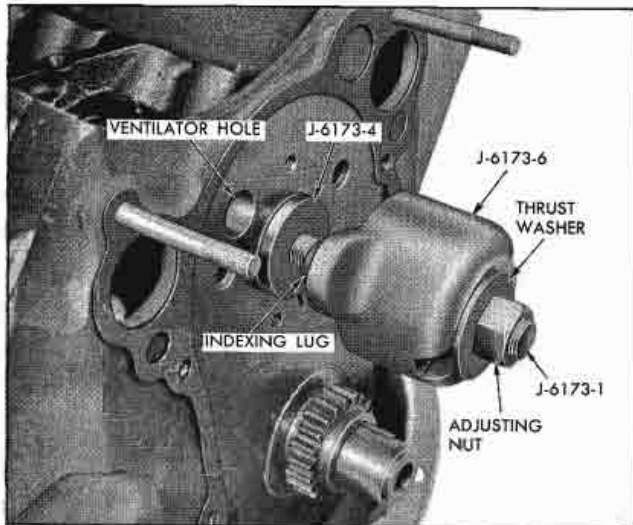

Fig. 6-55 Positioning Index Collar
1. Insert remover adapter J-6173-4 into front bearing to act as a support for shaft J-6173-1 (Fig. 6-55).
3. Place indexing collar J-6173-6 on threaded end of shaft with open side toward unthreaded end and start thrust washer and nut on shaft (Fig. 6-55).
4. Insert shaft and indexing collar through remover and replacer adapters and position lug on indexing collar in ventilator hole in front of block (Fig. 6-55). This indexes the shaft so that it cannot rotate.
6. Insert shaft with indexing collar, thrust washer, and nut through remover, pilot and replacer adapters and index lug on collar with ventilation hole in front of block (Fig. 6-55).